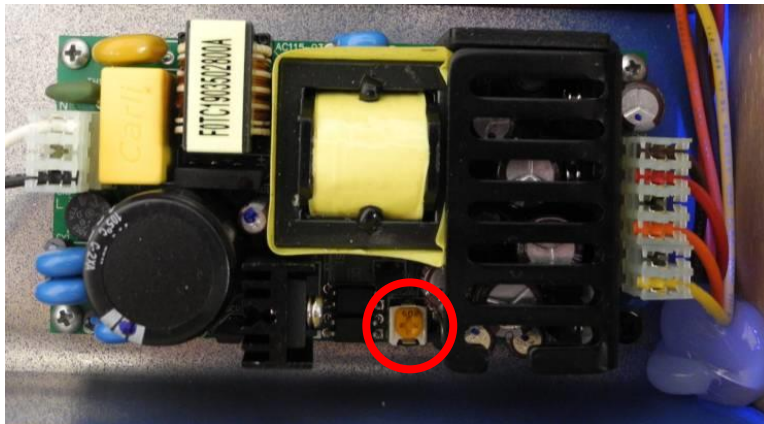

Figure 1. V_{R1} location (Red circle).
- 2.3. Adjust the 5V_{DC} output of the power supply to 5.1V_{DC} (-0/+0.04V) by turning V_{R1} (orange potentiometer) on the power supply while measuring the output voltage of the supply TP5 (+5V) to TP6 (AGND) on the main board, in order to locate V_{R1} please refer to **Figure 1**.